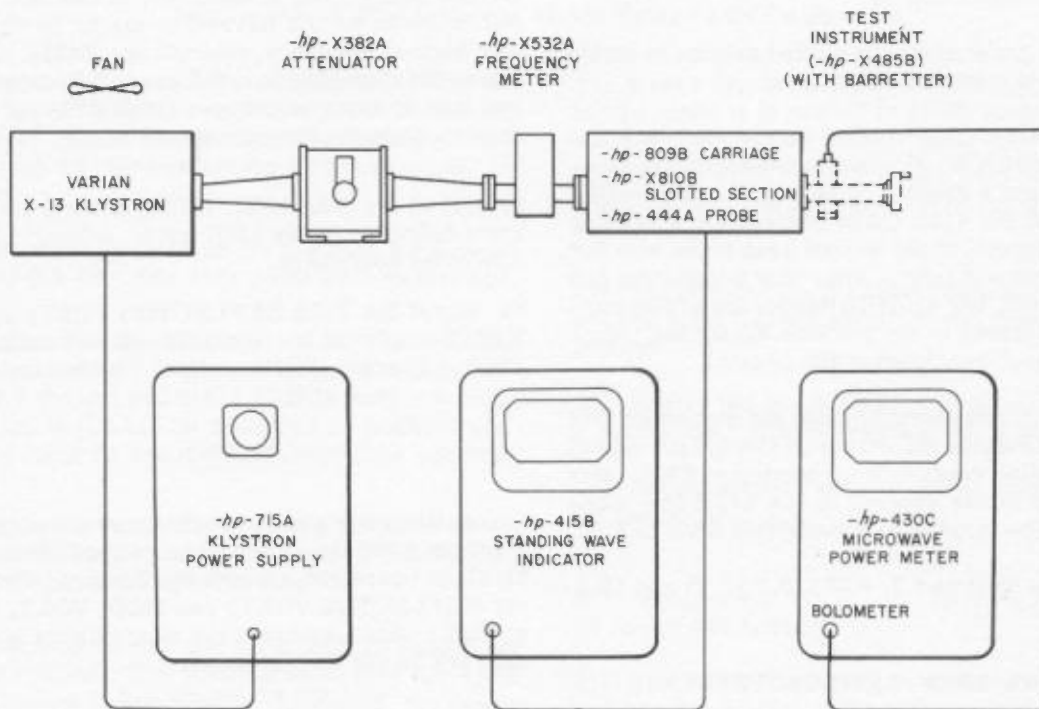

Figure 5-1 X485B Detector Mount SWR Calibration.
- 1) Connect the equipment as shown in Figure 5-1.